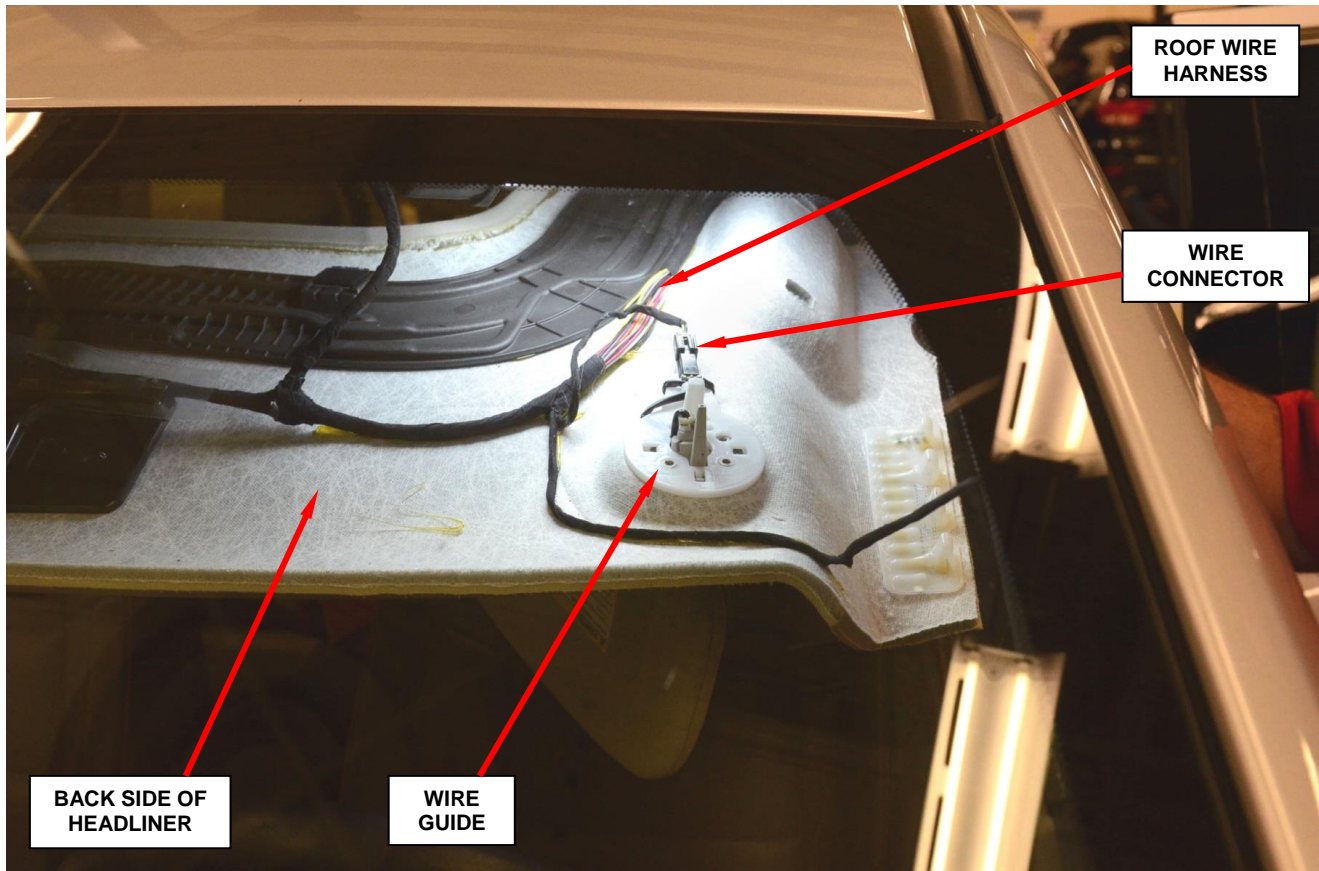

Figure 31 – Wire Guide Connector (viewed through windshield)
58. Connect the roof wire harness connector to the sun visor electrical connector (Figure 31).